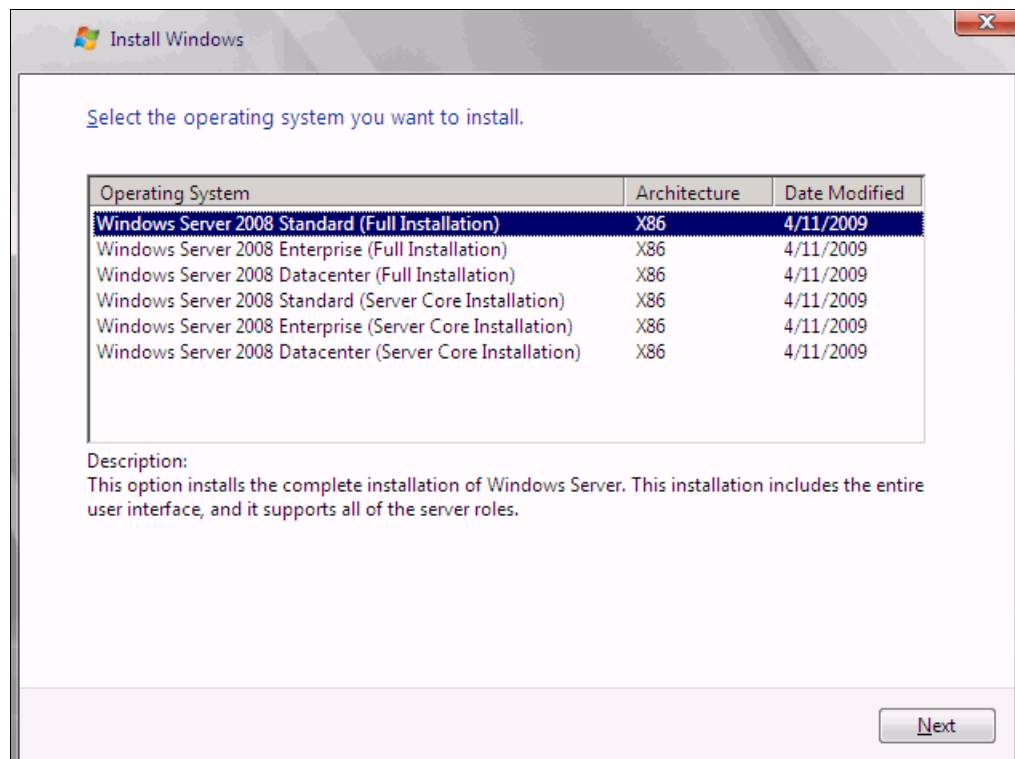

Figure 9-142 Selecting the operating system
11. Select the operating system that you want to install (Figure 9-142), and then click **Next**.